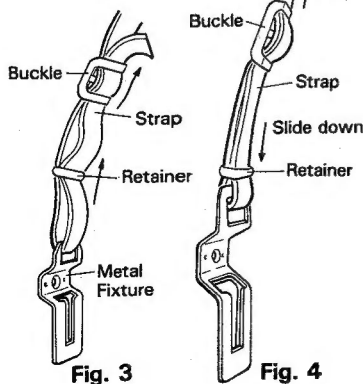

Fig. 3
- 3) Pass the strap through the Metal Fixture then back through the retainer, and finally through the buckle, as shown in Figure 3.